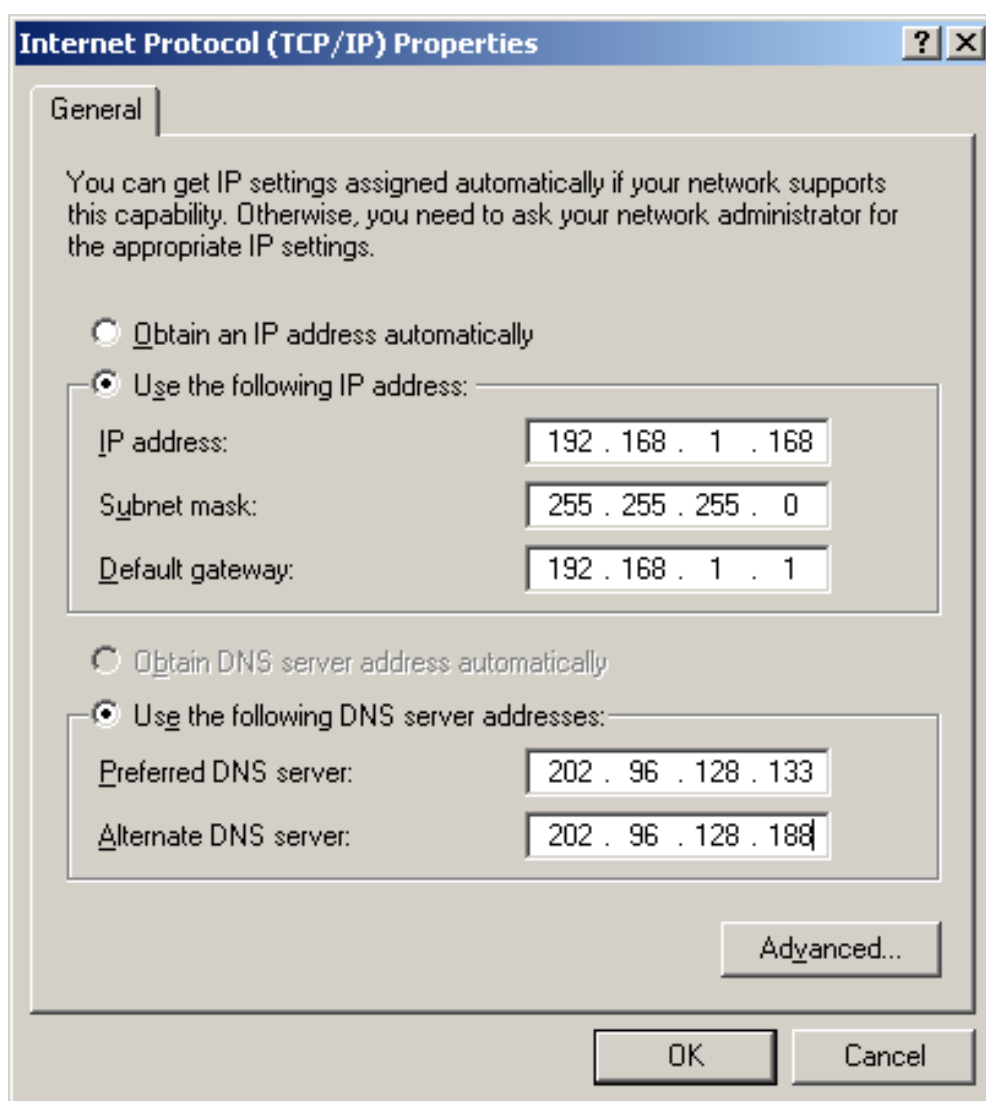

Figure 3-1
2. Change the IP address of your PC (Figure 3-1): Open TCP/IP Properties of the LAN card in your PC, enter the IP address as 192.168.1.\* (\* is any value between 2 to 254, Netmask is 255.255.255.0, Gateway is 192.168.1.1, DNS address is the value provided by ISP).